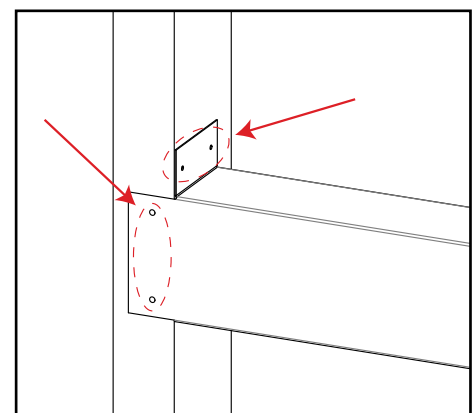

Figure 32: Steel Stud Installation
- Attach the steel stud to the framing studs using the holes shown in Figure 32.